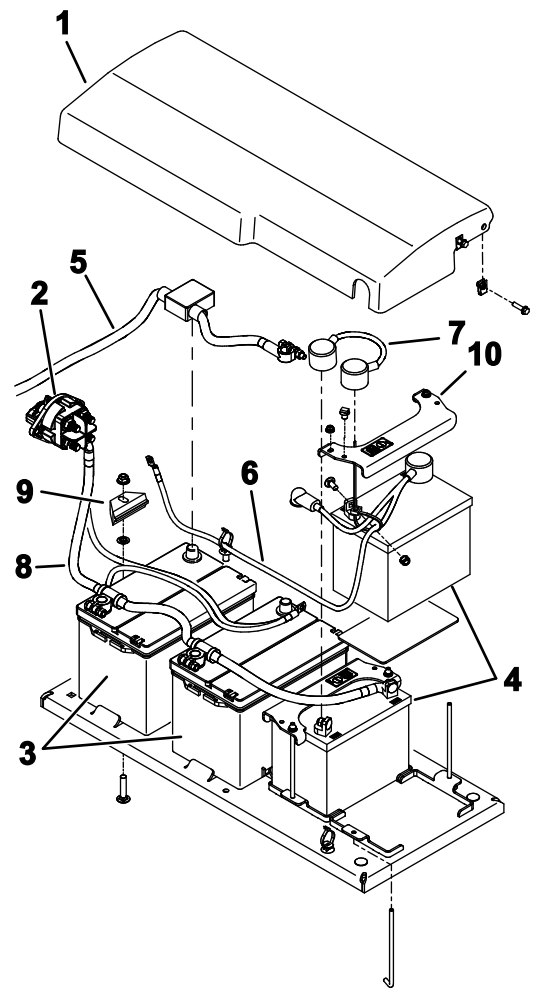

**Figure 81**
5. Remove the 6 flange screws securing rear shroud to the frame and remove the rear shroud (Figure 81).
4. Install the rear shroud (Figure 81).